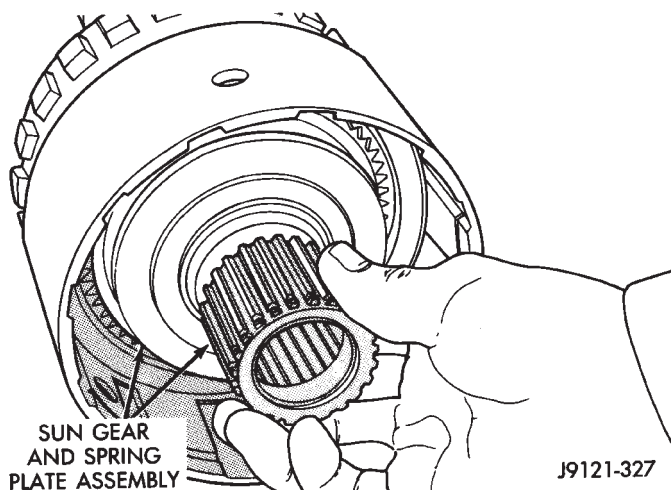

Fig. 46 Sun Gear Installation
(17) Install assembled sun gear, spring plate and thrust bearing (Fig. 46). Be sure sun gear and thrust bearing are fully seated before proceeding.
(18) Align splines in hubs of planetary gear and overrunning clutch with Alignment tool 6227-2 (Fig.